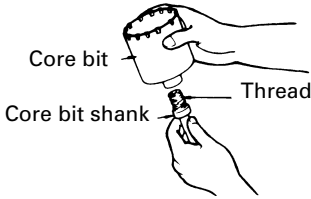

Fig. 19
- (1) Mount the core bit to the core bit shank. (Fig. 19)